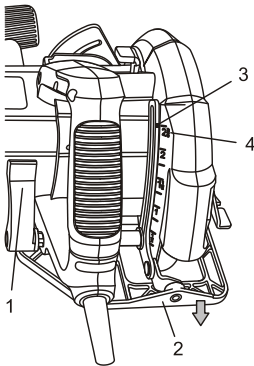

Fig. 4
1. Lift the depth adjustment locking lever (1) upward (Fig. 4).
2. Pull the sole plate (2) downward until the correct amount of the blade is protruding below the sole plate.
3. Lift the cutting depth locking lever upward to allow the blade to rise above the bottom of the sole plate so the blade will NOT contact the workpiece (Fig. 4). Do NOT lock the cutting depth locking lever.